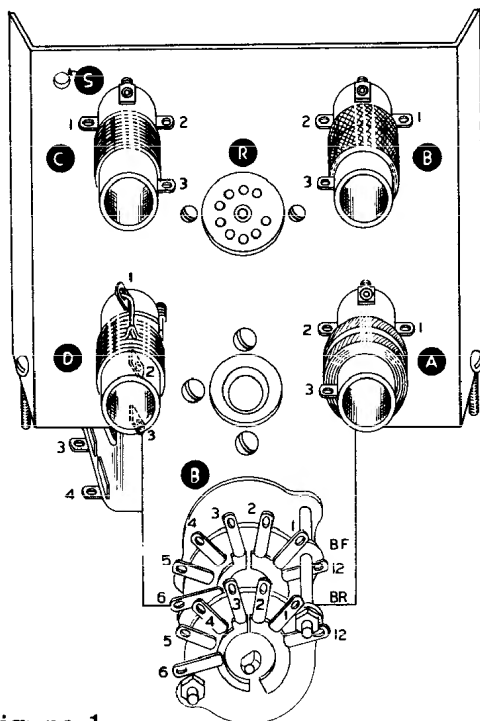
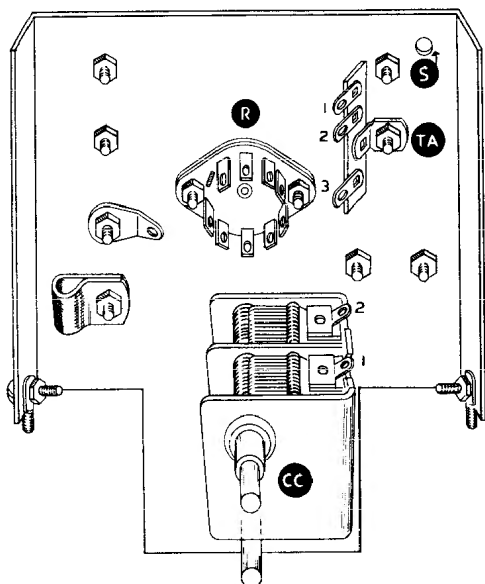
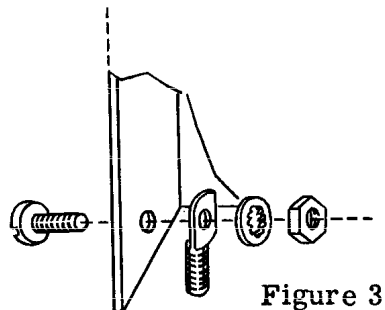
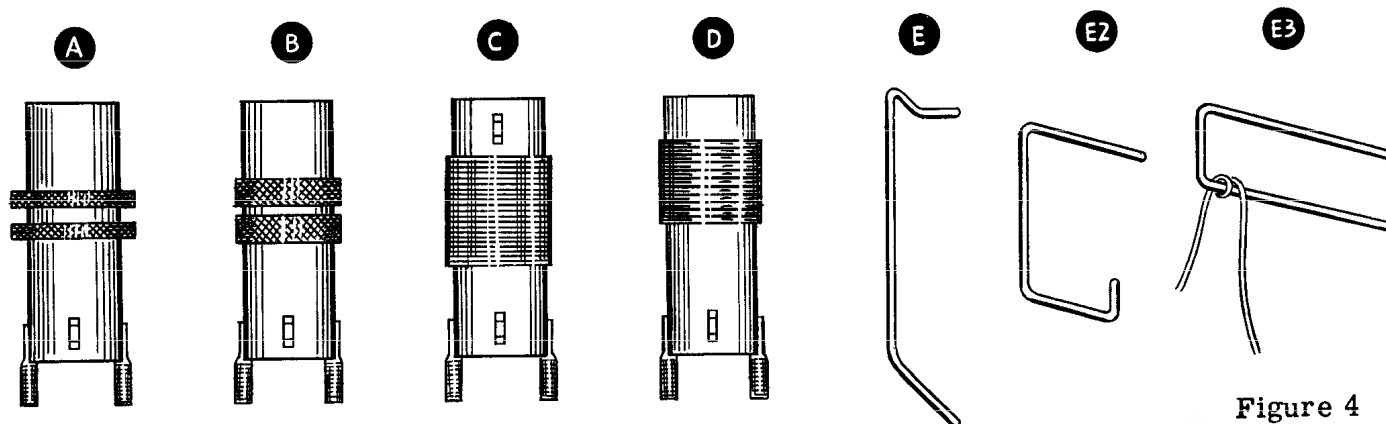

Figure 1
Figure 2
Figure 3
Figure 4
- ( ) Mount two 6-32 spade bolts on the sub-chassis aprons as shown in Figure 2. Method of mounting is shown in Figure 3.
- ( ) Mount a 9-pin miniature socket R on the sub-chassis, using 3-48 screws and nuts. Position as shown in Figures 1 and 2.
- ( ) Mount the tuning condenser as shown in Figures 1 and 2, using 3/16 6-32 screws with lockwashers under the heads.
- ( ) Mount the band switch B, using a control lockwasher and control nut. Omit the flat washer. Position as shown in Figure 2. See Figure 5 for method of mounting controls.
- ( ) Referring to Figure 4 for coil identification, and Figure 1 for coil position, mount the coils A, B, C and D. Referring to Figure 2, note that coil C has a 3-lug terminal strip mounted on its lower mounting screw, and coil A has a solder lug on its upper mounting screw. Use lockwashers on all coil mounting screws except the one having the solder lug.